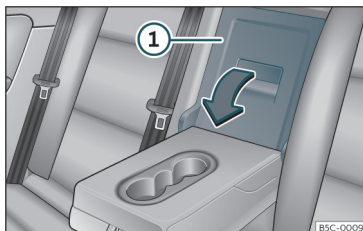

Fig. 119 In the rear seat backrest: opening the trapdoor.
- Pull the release lever in the direction of the arrow and push the tailboard cover >>> **Fig. 119** ① down and forwards.